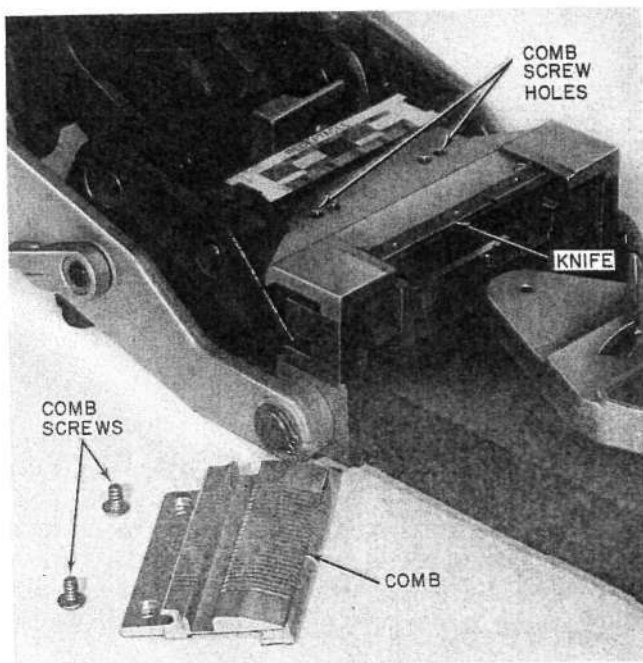

Fig. 29—Removal of Comb
**4.02 Wire Guide Comb**—To take off the comb, use a 3/32 Allen wrench to remove the 2 screws which hold it down. Lift the comb away from the tool (Fig. 29). Mount a new comb on the tool with the 2 screws.